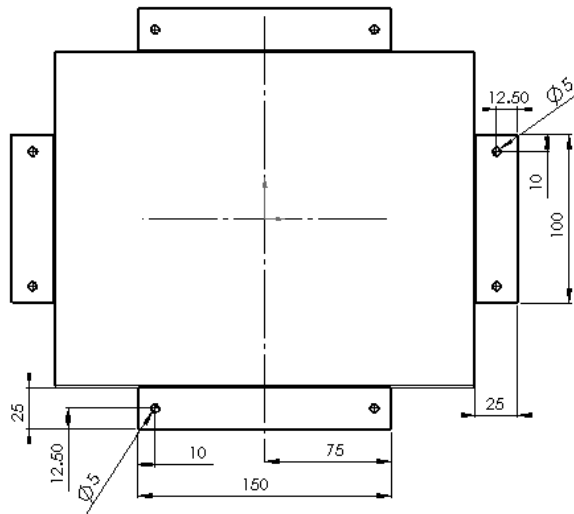

Figure 16-154 Sketch of the flanges
3. Draw the sketch of the flanges, as shown in Figure 16-154.